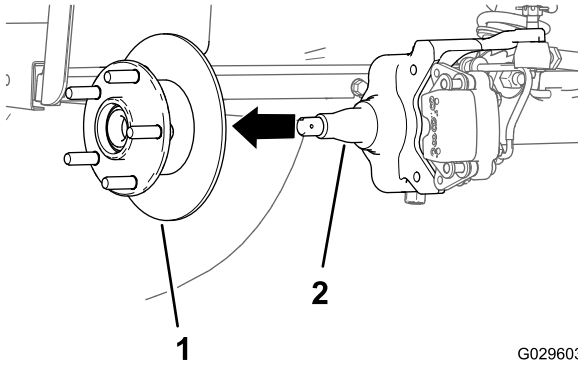

Figure 30
- Remove the spindle nut from the spindle, and separate the hub and rotor assembly from the spindle (Figure 29 and Figure 30).